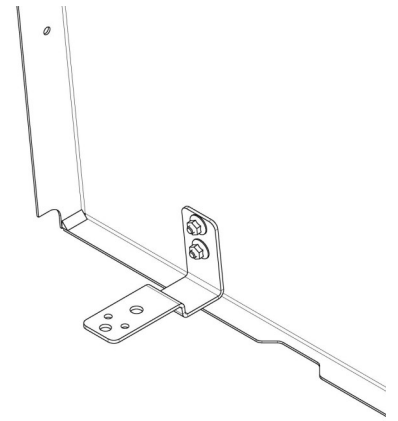

Figure 3
2. Locate the (2) Lower Barrier Brackets [3BAR572101], (4) 1/4"-20X5/8" carriage bolts [3X36], and (4) 1/4"-20 whiz nuts [3X612].
4. Loosely secure the Lower Barrier Brackets in place by inserting the (4) carriage bolts [3X36] through the square holes in the barrier and finger tightening the (4) whiz nuts [3X612] onto the bolts. The nuts should be on the back side of the barrier against the brackets. Figure 3 shows an installed driver side Lower Barrier Bracket. For basic OSB, **SKIP TO STEP 9**.
5. Locate the (3) Lower Barrier Brackets [3BAR572101], the retractor bracket [3OSB572124], (6) 1/4"-20X3/4" carriage bolts [3X61], and (6) 1/4"-20 whiz nuts [3X612].
7. Loosely secure the driver side lower barrier bracket by inserting (2) carriage bolts [3X61] through the square holes in the barrier and finger tightening (2) whiz nuts [3X612] on the bolts. The nuts should be on the back side of the barrier against the brackets. Figure 3 shows the driver side Lower Barrier Bracket installed.